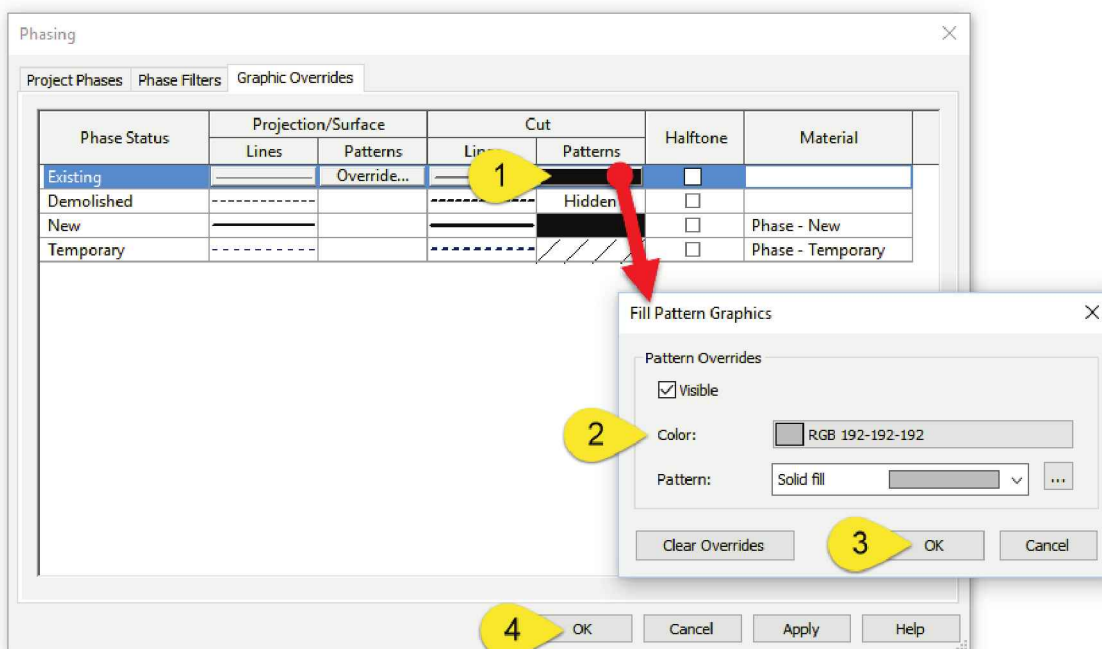

FIGURE 17-3.5 Graphic Overrides tab; Phasing dialog
13. Follow the steps shown in Figure 17-3.5 to change the fill color to gray.